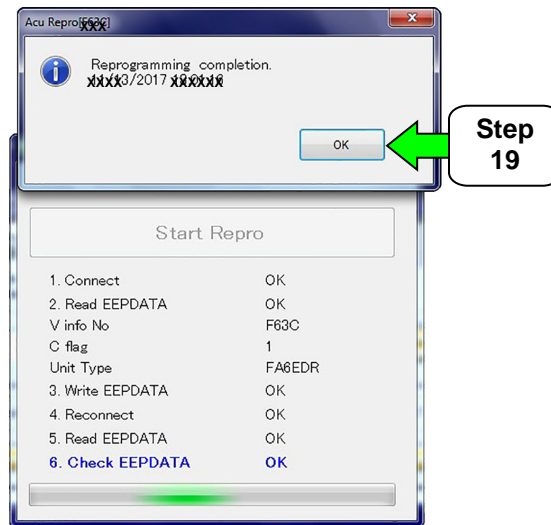

Figure 11
18. When the screen in Figure 11 displays, reprogramming is complete.
CAUTION: DO NOT disconnect the blue cable until the screen in Figure 11 displays and **OK** is selected.